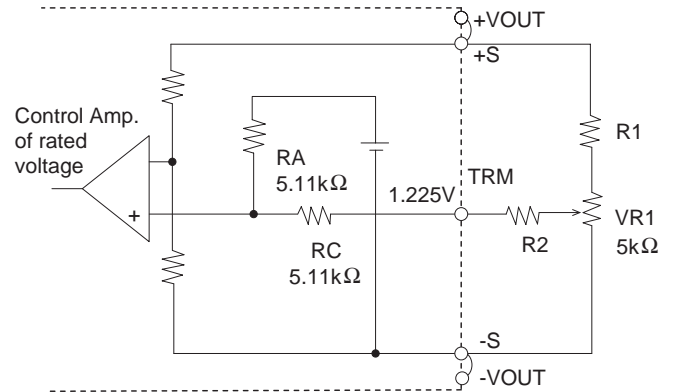

Fig.4.4 Output voltage control circuit
(1) Output voltage adjusting
- By connecting the external potentiometer (VR1)and resistors (R1,R2),output voltage becomes adjustable, as shown in Fig.4.4, recommended external parts are shown in Table 4.2.